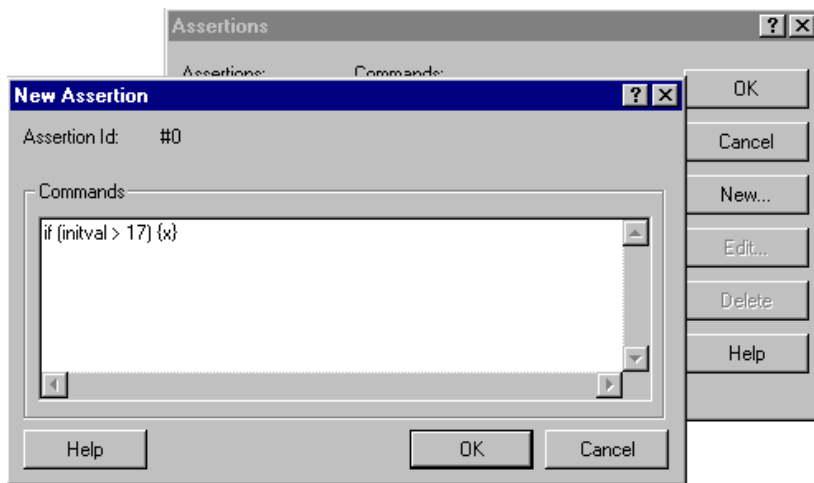

Figure 7-4: Defining Assertions
- Click on the **New...** button to open a text edit dialog box as shown in figure 7-4 to type in commands.